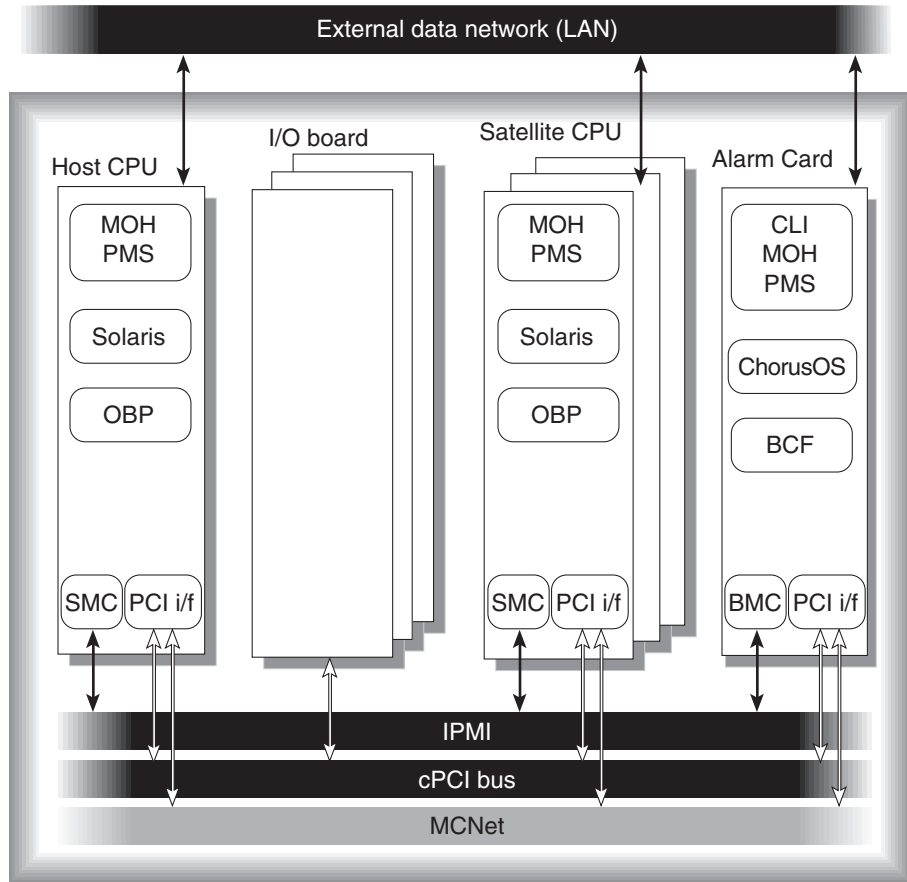

FIGURE 1-1 Logical Representation of Software and the Hardware Interfaces in a Netra CT Server
- FIGURE 1-1 Logical Representation of Software and the Hardware Interfaces in a Netra CT Server 3
The software is described in TABLE 1-1 and represented logically, with the hardware, in FIGURE 1-1.